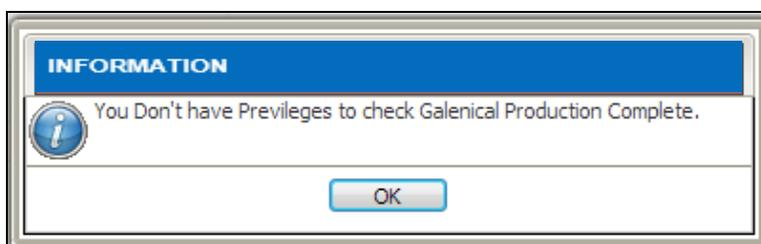

Figure 3.1-23 Alert Message No Privilege to check
- The system will display an alert as Figure 3.1-23 if the Username entered don't have the privilege to complete the work order production.